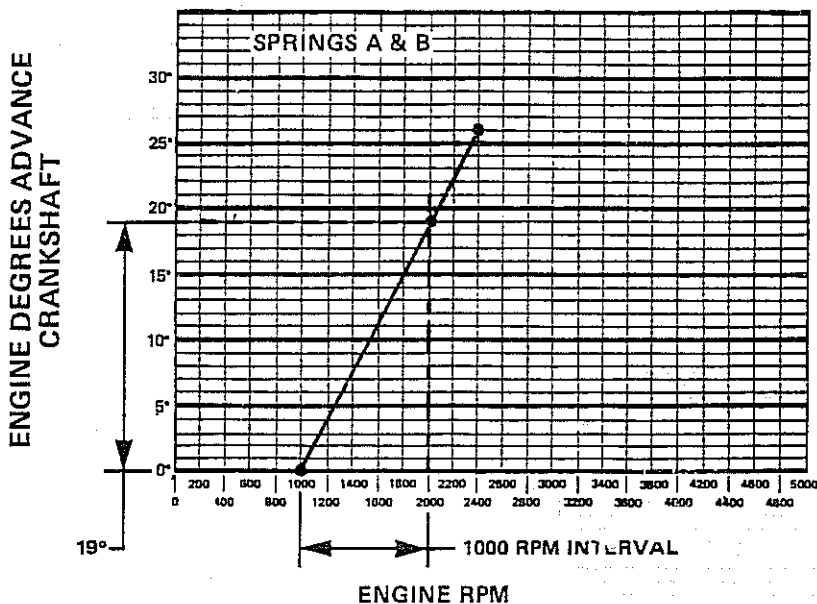

FIGURE 1
2. In order to plot a Straight-Line Curve you must decide at what RPM you want your advance to start and at what RPM you want your total advance to finish. The curve in Figure 1 is an example, it starts at 1000 RPM and is fully advanced at 2400 RPM. Plot your curve on the graph in Figure 3.
3. Mark off a 1000 RPM interval and count the number of degrees in that interval. The curve in Figure 1 has 19 degrees in the 1000 RPM interval.